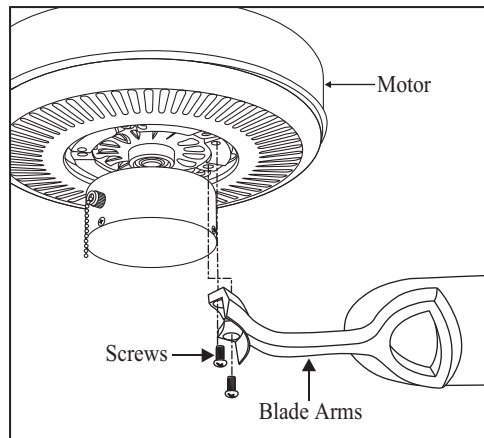

Figure 18
3. Align motor holes to blade arms and secure with screws provided, tighten screws securely. (Figure 18)